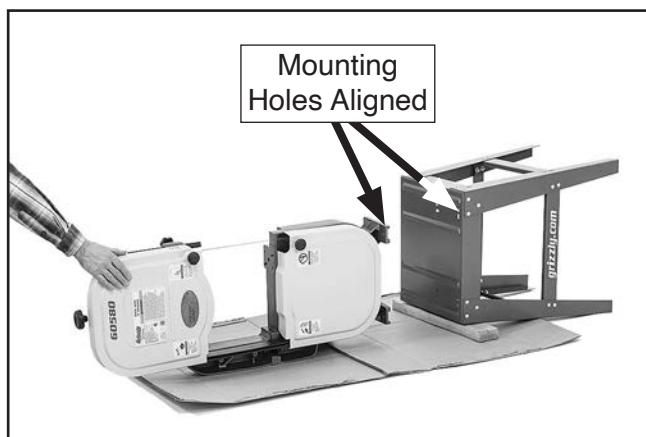

Figure 12. Aligning machine with stand.
6. With help of assistant, position machine horizontally in line with mounting holes as shown in **Figure 12**.